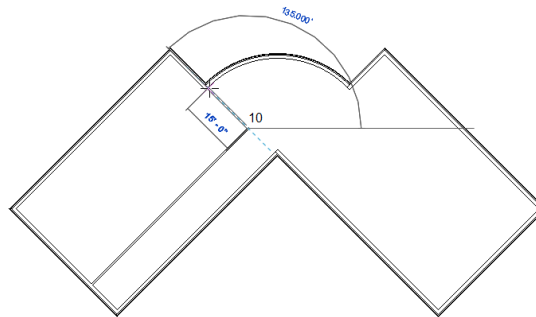

Figure 3-71 Sketching the second interior wall
5. Start the next wall from the endpoint of the last created wall by clicking on its endpoint. Move the cursor upward toward the left such that it subtends an angle of 135 degrees with the horizontal and reaches the exterior wall displaying the **Nearest** object snap, as shown in Figure 3-71. Click to specify the endpoint of the wall.
6. Similarly, to start the next interior wall, bring the cursor close to the starting point of the last created wall (marked as 10), refer to Figure 3-71. Then, move the cursor away along the centerline of the wall until the temporary dimension appears. When the temporary dimension appears, enter the value **10'0"(3048 mm)** and press ENTER to specify the start point of the wall.